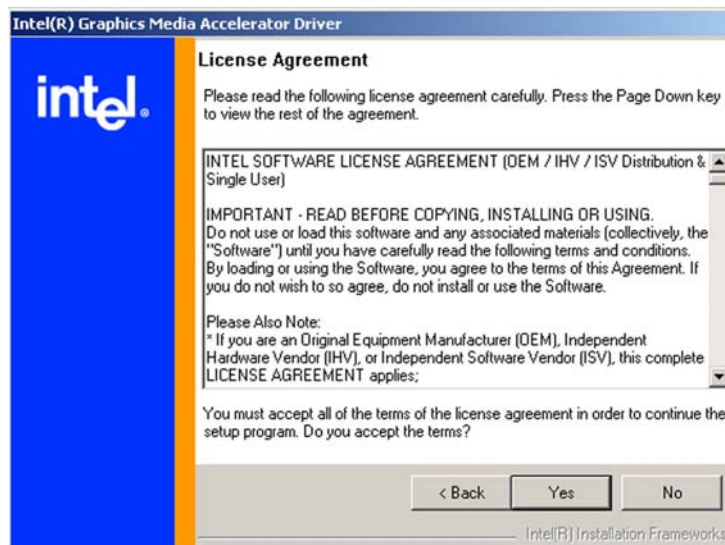

Figure 7-16: GMA Driver License Agreement
Step 12: The license agreement in **Figure 7-16** appears.
Step 13: Click the **YES** in **Figure 7-16** to continue.